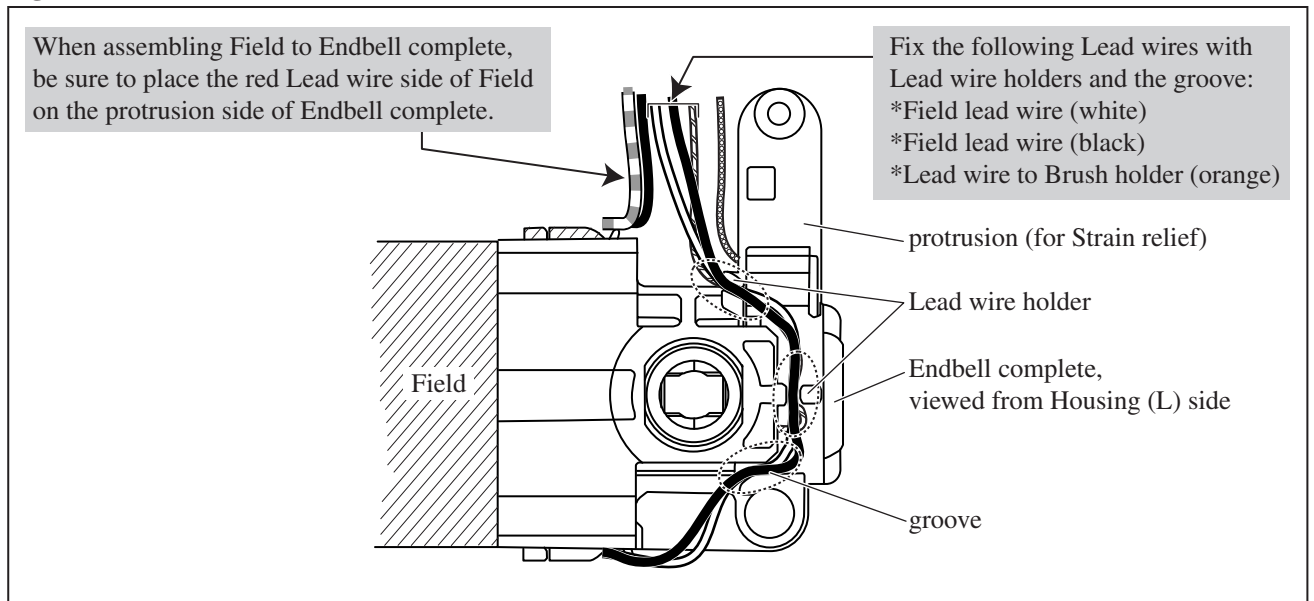

Fig. D-4
Route Lead wires on Endbell complete as described in **Figs. D-2, D-3** (viewed from Housing (L) side) and **Fig. D-4** (viewed from Field side).